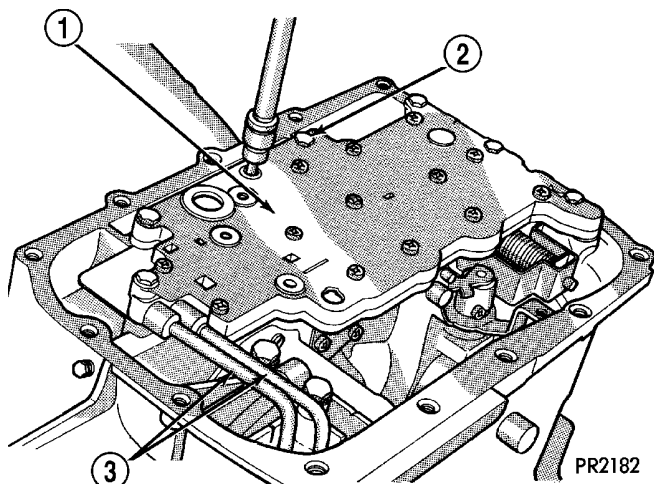

Fig. 9 Valve Body Attaching Bolts
(10) Remove valve body-to-transaxle bolts (Fig. 9).